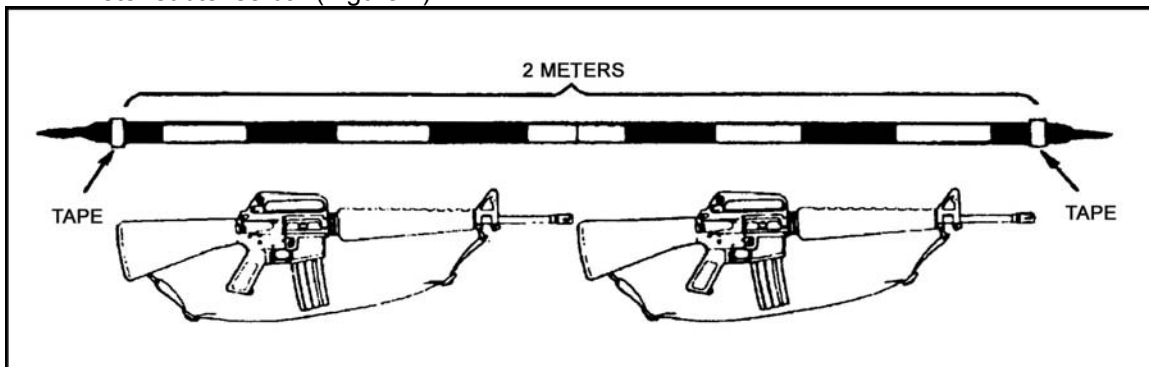

Figure 1. Measuring two-meter subtense bar.
- c. Direct an assistant (the "post" man) to move toward the mortar position with the aiming post (subtense bar). The post man joins the two sections of the post together and places reflective or black tape stripes exactly 2 meters apart on the aiming post. The post then becomes a 2-meter subtense bar (Figure 1).